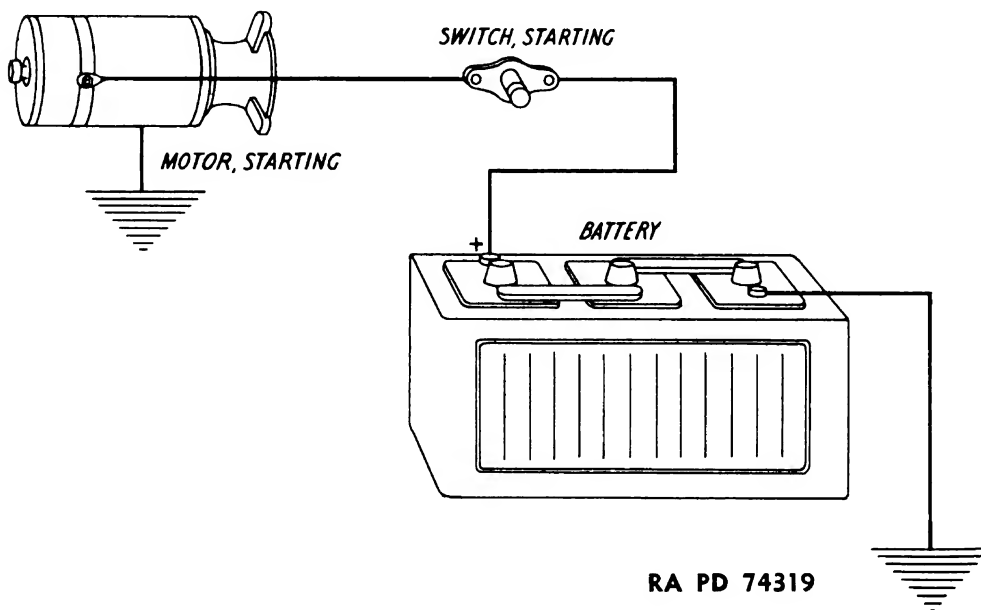

Figure 158 – Engine Starting System
a. **General.** The starting motor, the battery, and the starting switch on the instrument panel make up the engine starting system (fig. 158).